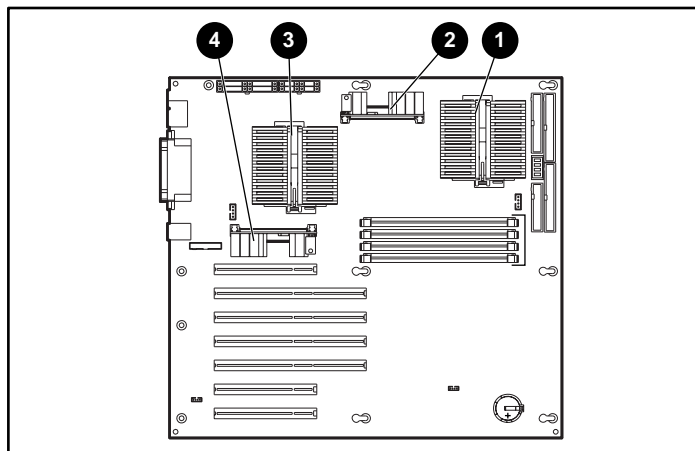

Figure 3-35. Locating the processors and Processor Power Modules (PPMs)
2. Locate the processors and PPMs as shown in Figure 3-35 and Table 3-4.